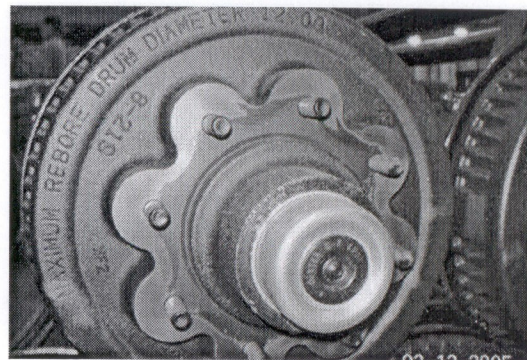

Figure 4
- Step 2 Make a final inspection of the wheel and hub mounting surfaces before installing the wheels. If any grease is present use a brake cleaner or degreaser. Rinse any cleaned areas with water to remove residue. Dry the surface completely. See Figure 4.